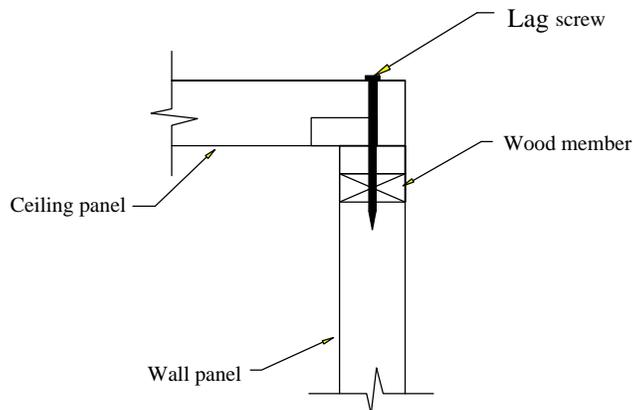

Figure 8b - Ceiling To Wall Attachment
2. Lag down from the top with 3/8" lags. Tighten the lags down until the gasket seals ceiling panels with the wall. Align and adjust door for proper seal and secure at floor line with door angles provided (see figure8b).